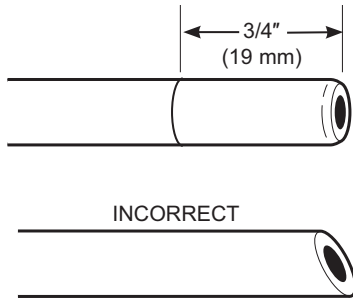

Fig. 6
1. Measure 3/4" from the end of each remaining piece of tubing (faucet end and inlet end) and mark with a pencil (Fig. 6). (Check for roundness, smoothness, cuts, nicks, flat spots and sharp edges. It may be necessary to recut the tubing.)